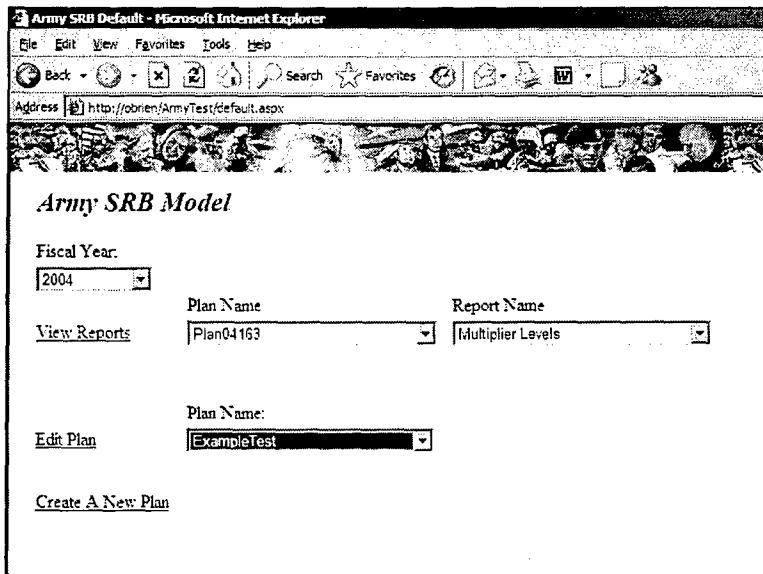

Figure 42. Select SRB Plan to Edit
1. Select an existing SRB plan from the dropdown box to the right of the *Edit Plan* link on the main page (see Figure 42).